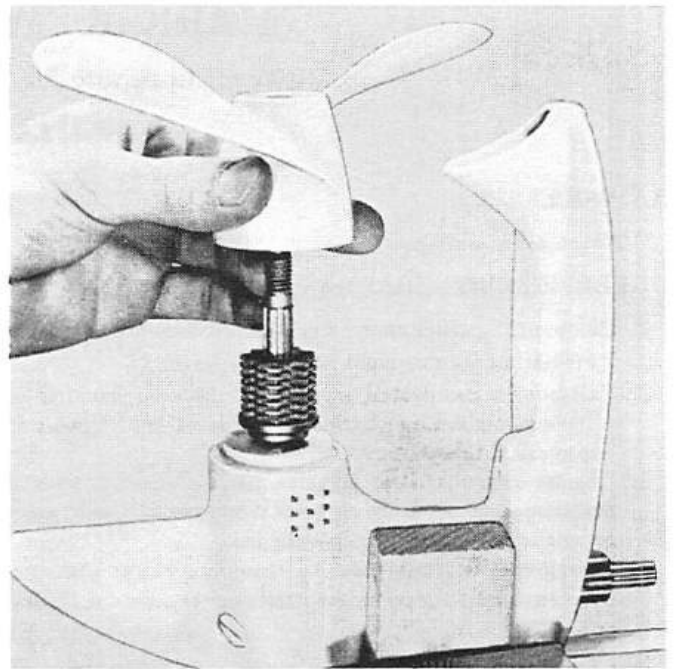

Figure 5. Removing Propeller from Shaft.
3. Remove propeller, being careful not to lose 14 discs (7 fibre and 7 metal) lined up on propeller shaft. (Figure 5) These are followed by clutch thrust plate and gear case cover.